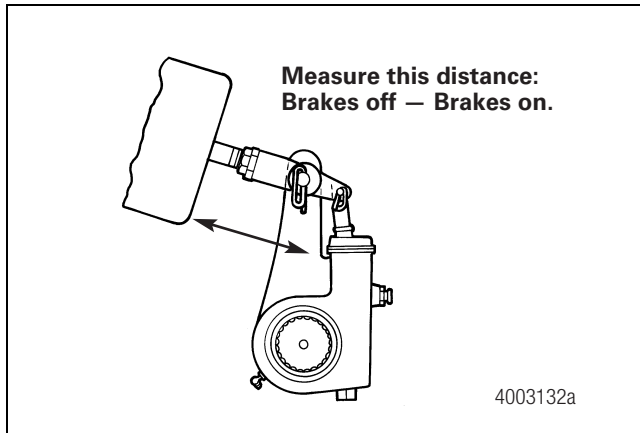

Figure 5.19
3. Measure the distance from the center of the large clevis pin to the bottom of the air chamber. Figure 5.19.